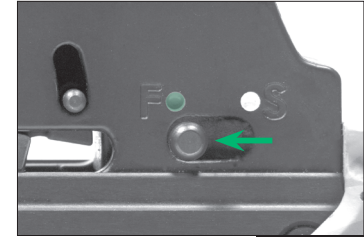

FIGURE 13
3. Slide the safety switch from the ON SAFE position to the FIRE position (Fig. 13).